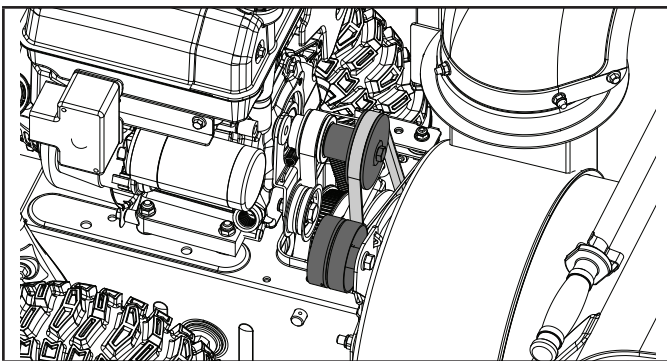

Figure 29
9. With the belt properly placed on both the front pulley and the auger drive pulley, pull the auger idler pulley back away from the belt and slip the belt inside the pulley. You can pull the recoil to rotate the pulley to help get it seated (Fig. 29).